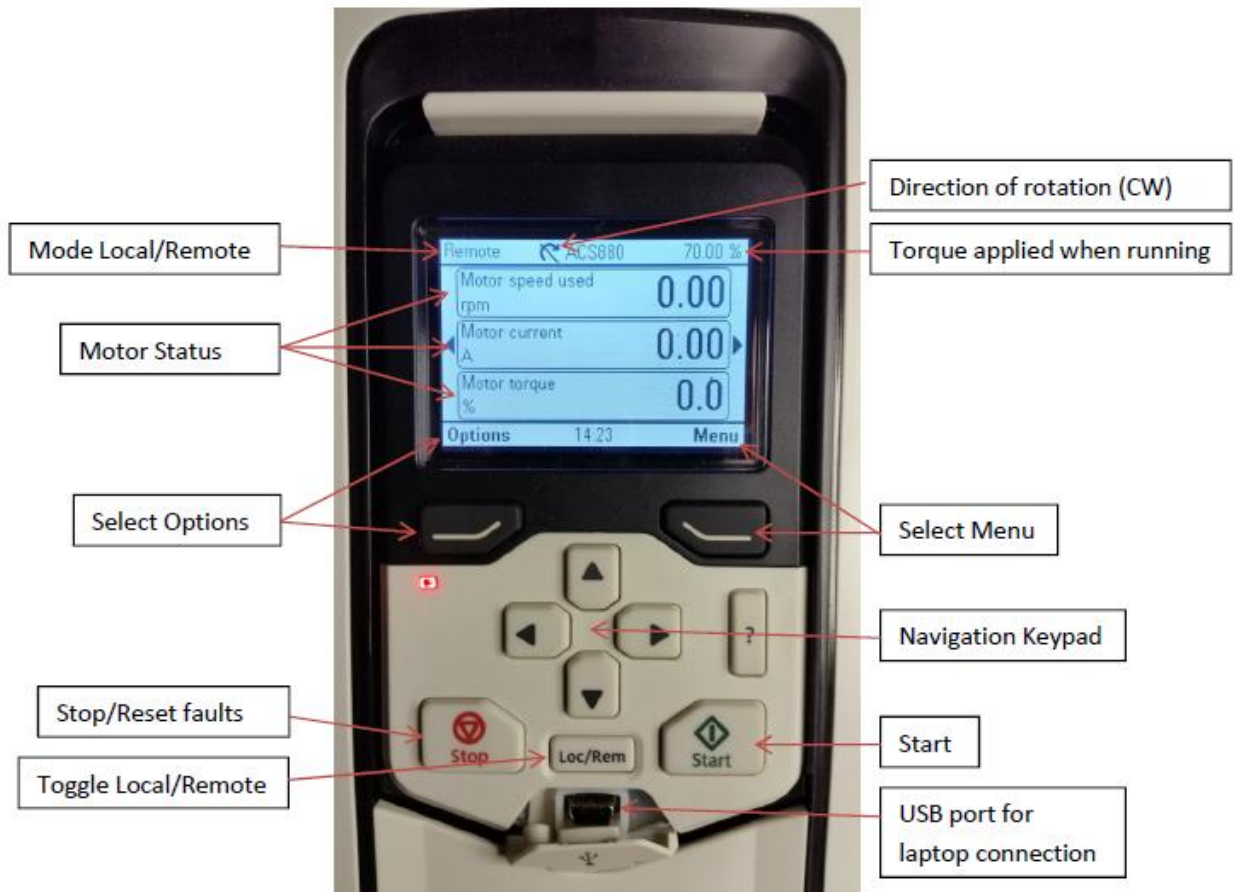

Figure 13: Variable Frequency Drive Interface
The normal mode of operation of the VFD is "remote", which allows the VFD to be controlled by external run commands in a predefined torque mode. The local operation mode will allow the reel to be operated from the VFD interface. Figure 13 highlights the various points of interest on the VFD interface. All changes to the VFD programming should be tested in local mode prior to changing the operation back to remote.
1. Select the upper left button from the VFD's home screen, seen in Figure 13, to access the VFD's Options.
1. Select the upper right button from the VFD's home screen, seen in Figure 13, to access the VFD's Menu.